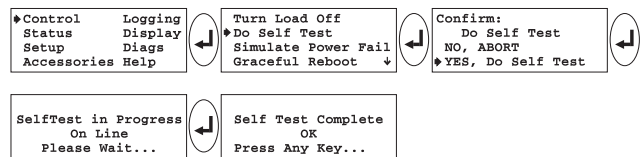

Fig 5-22 Initiate a Self Test Sequence
- 9. Perform a self test by following the screen sequence in figure 5-22.